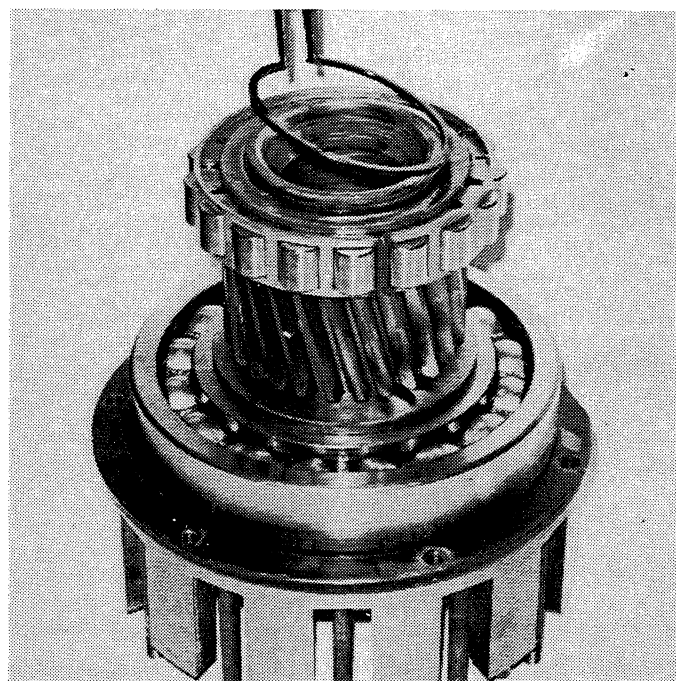

Figure 6-39. Removing or Installing Snap Ring on Front of Input Pinion.
4. If front roller bearing (Figure 12-2, 47) requires replacing, remove snap ring (36) from sleeve on the front of the input pinion. See Figure 6-39.